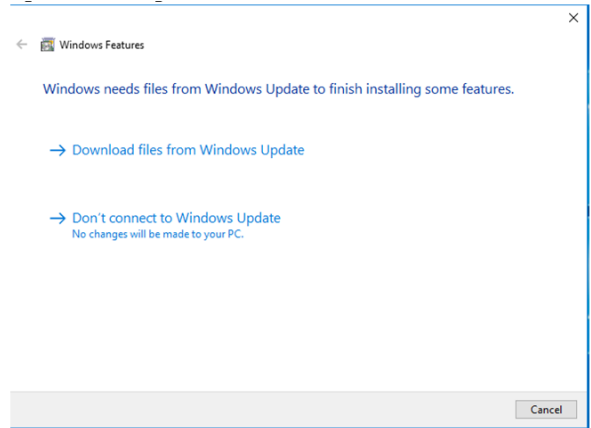

Figure 4. Prompt to Download Windows Update
- c) After selecting the checkbox and clicking OK the dialog box in Figure 4 appears. Please note a valid internet connection is needed for this step. Select the **Download files from Windows Update** option and after installation the EVAL-AD7768FMCZ will operate as expected.